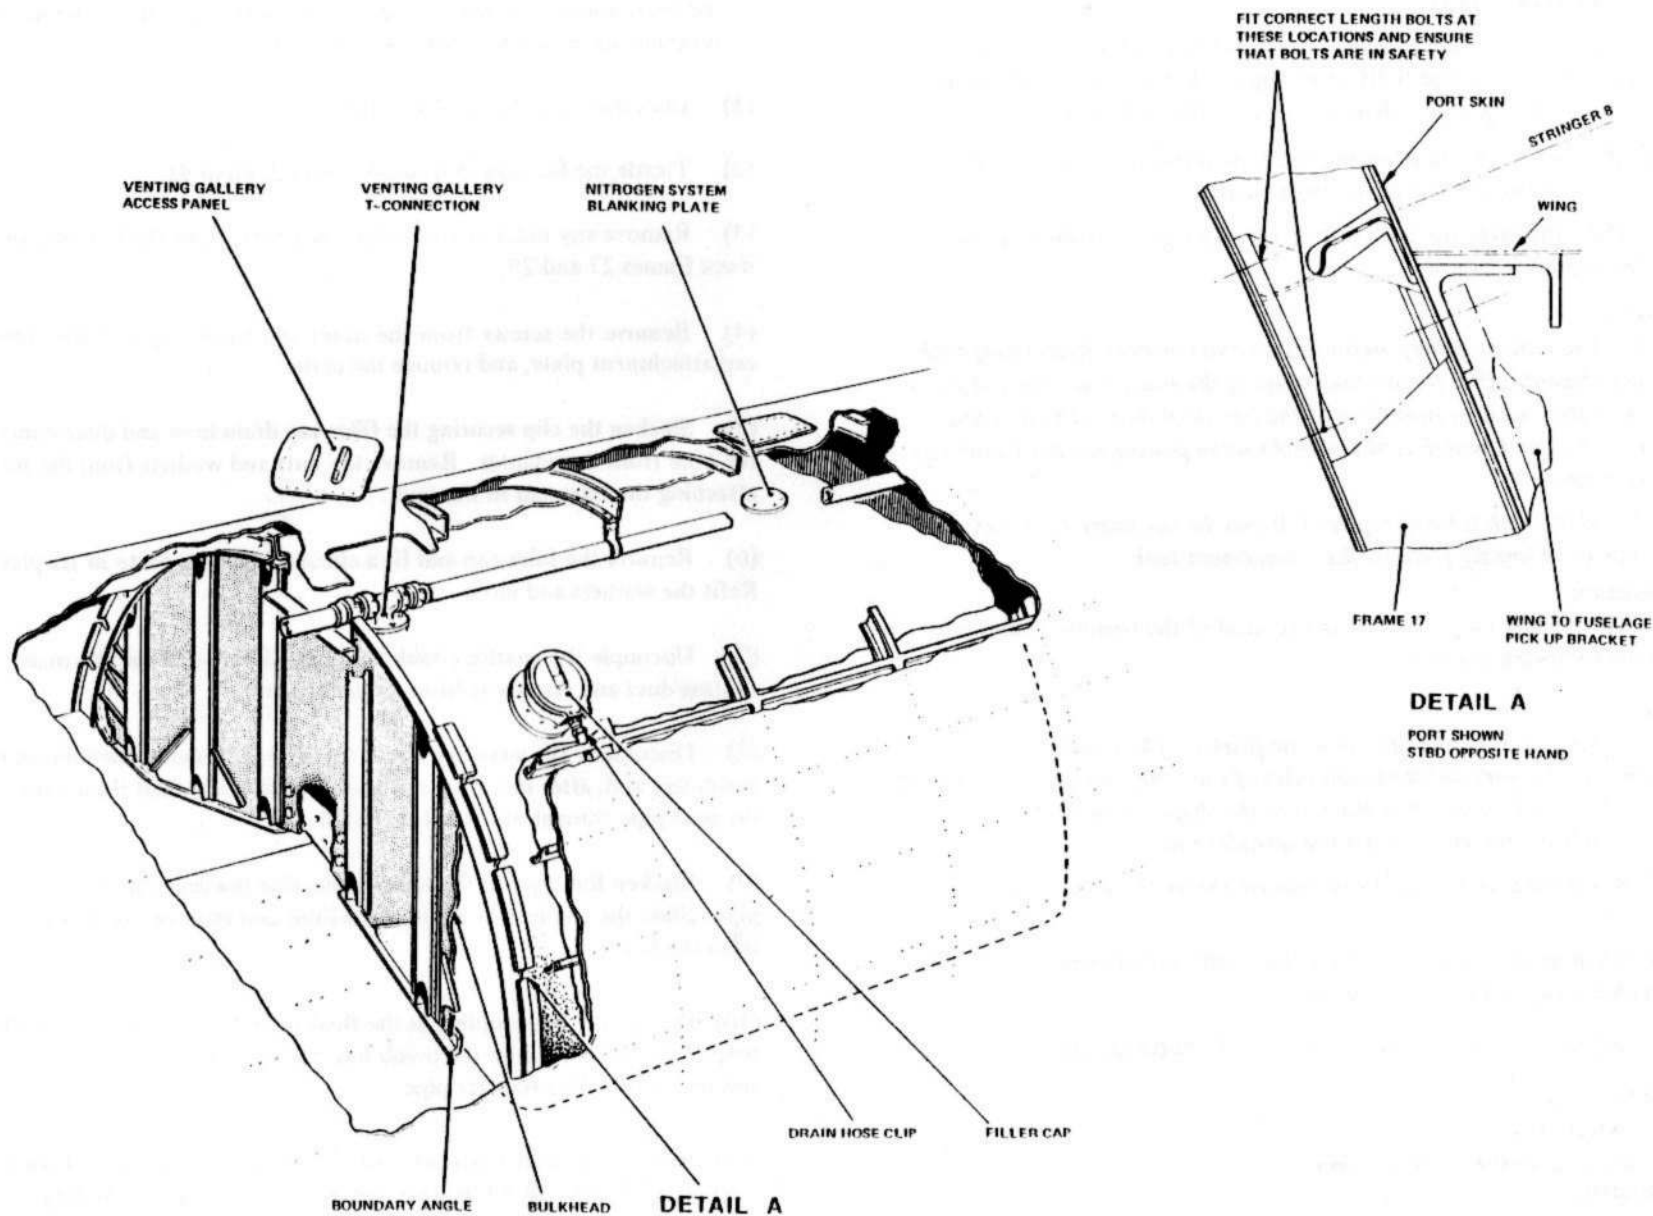

FIG. 9. No. 2 FUEL TANK REMOVAL
No.2 fuel tank*Removal (fig.9)*
4. *Fit the correct length bolts at frame 17 bulkhead (fig.9, detail A).*